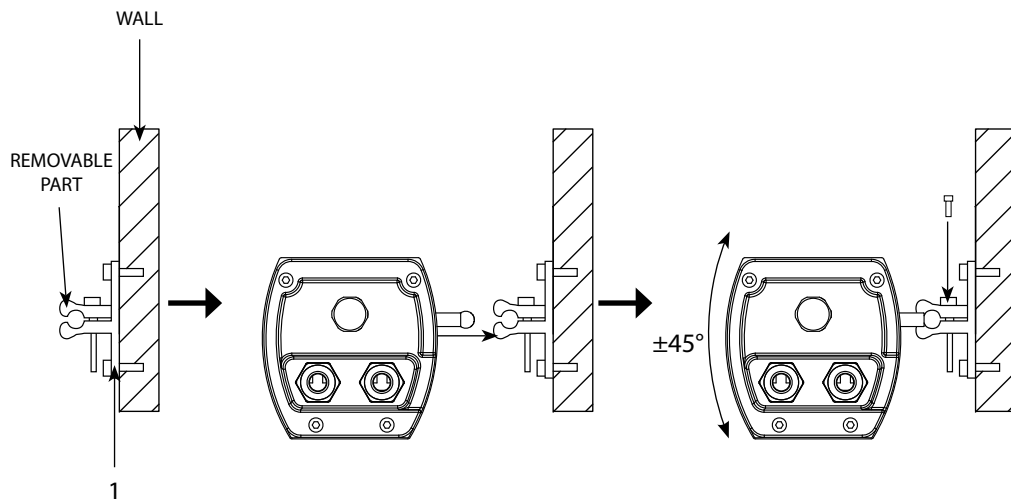

Fig.2
ARCLOT27TRI may be set up on a solid and even surface (fig.2). The unit can also be mounted with to a support bracket (1), the unit can be on different surfaces such as walls and ceilings. The mounting place must be of sufficient stability and be able to support a weight of 10 times of the unit's weight.